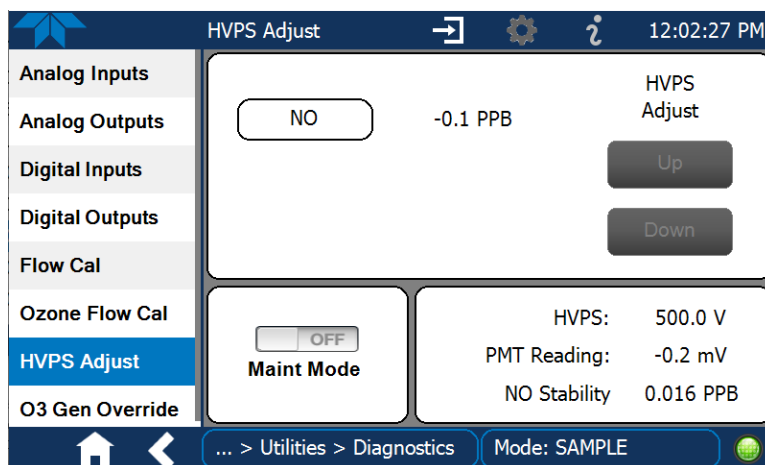

Figure 5-17. HVPS Adjust Menu
3. Return to Homescreen and navigate to Utilities>Diagnostics>HVPS Adjust (Figure 5-17).